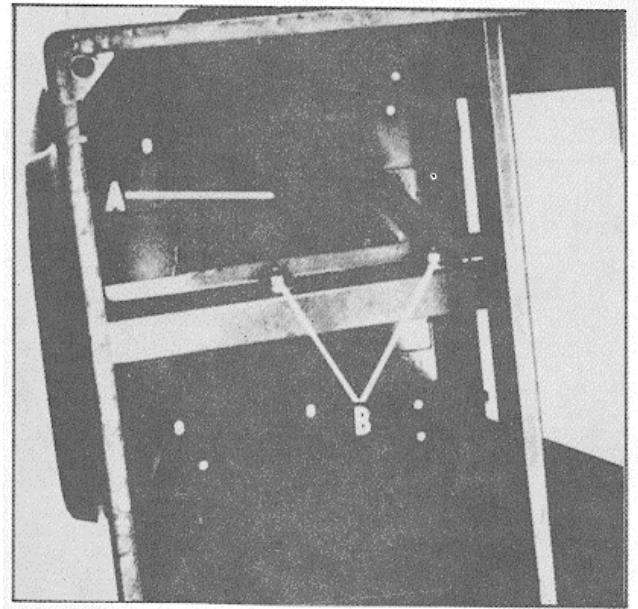

Fig. 5
2. Assemble the motor mounting plate (A) Fig. 5, using the two hex head capscrews flat washers and nuts (B). The other end of the motor is fastened to the side of cabinet using a carriage bolt from the outside of the cabinet and a flat washer and nut on the inside.